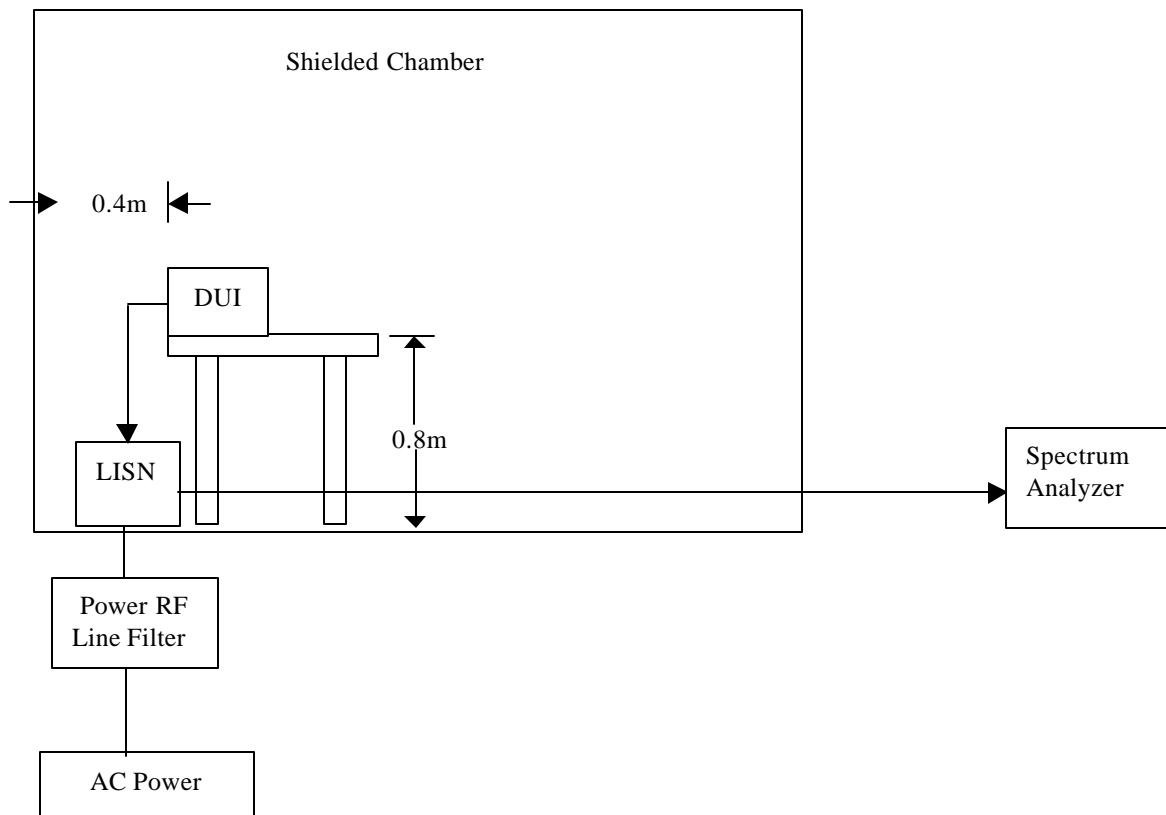

Figure a1: Conducted Emissions on Power Lines - Testing Setup
***Criteria:*** For an intentional radiator, which is designed to be connected to the public utility (AC) power line, the radio frequency voltage that is conducted back onto the AC power line on any frequency or frequencies within the band 450 kHz to 30 MHz shall not exceed 250 micro-volts (48 dBµV). Compliance with this provision shall be based on the measurement of the radio frequency voltage between each power line and ground at the power terminals.
***Set-up:*** Test setup from Figure a1 was used.